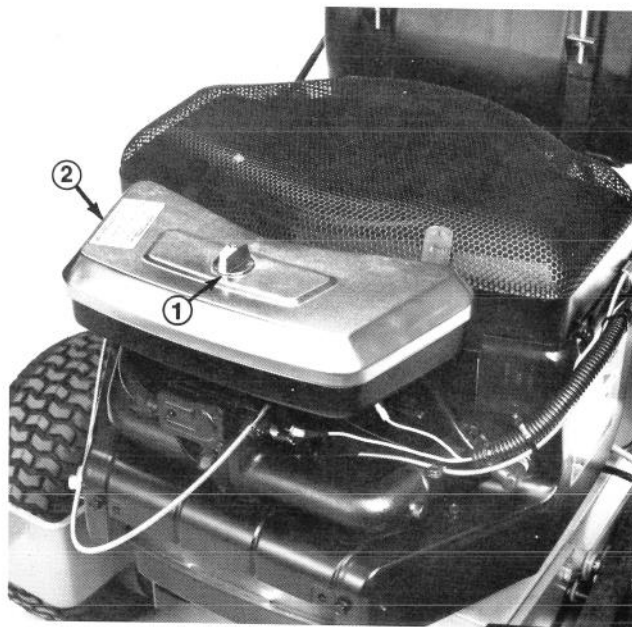

Figure 16
1. Remove knobs and cover (Fig. 16).